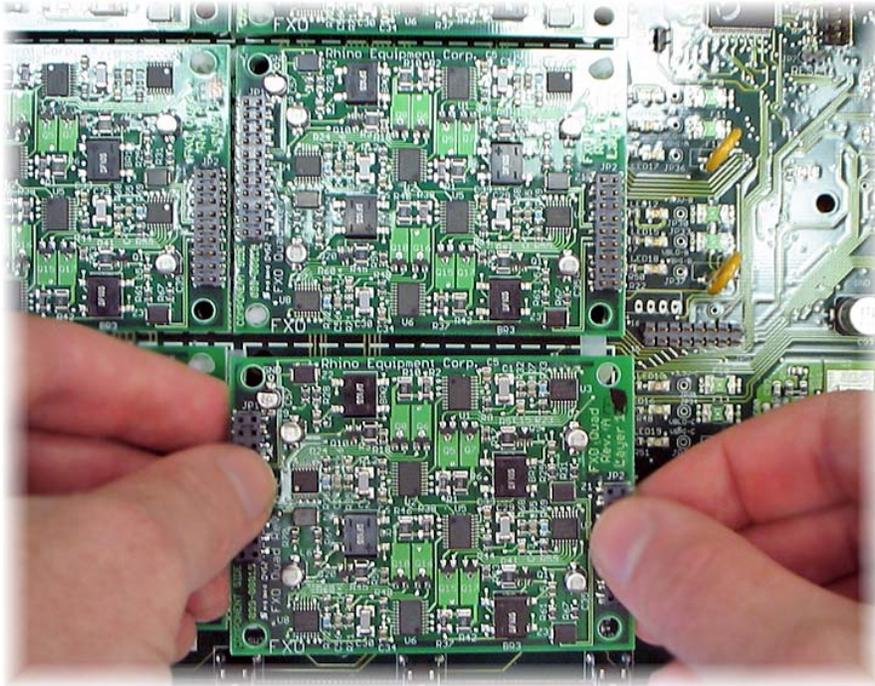
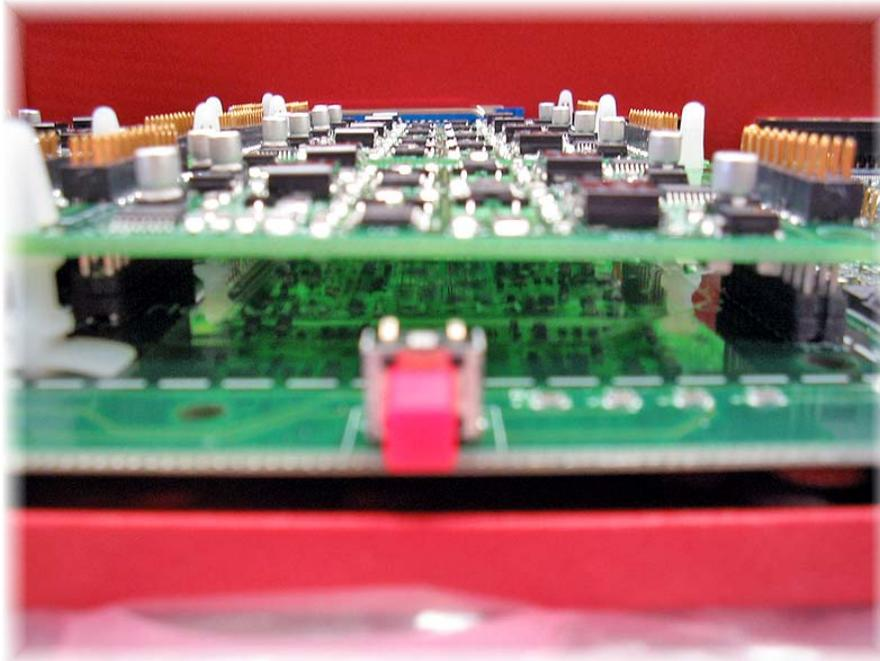

Figure 6
Figure 7
**4** Before applying any pressure to the card make sure the connectors on the card are lined up with the pins on the main board. When you begin to seat the card apply very little pressure, the majority of the pressure must be focused on the black top mounted plastic connectors. DO NOT force the card – note where to place fingers in the figure. (Refer to figure 6) It is normal for the male gold pins to extrude out from the black plastic connectors; in fact, this is required for good electrical connection. Continue to ease the card down onto the spacers until the card clicks into place over the plastic spacers. (Refer to figure 7)